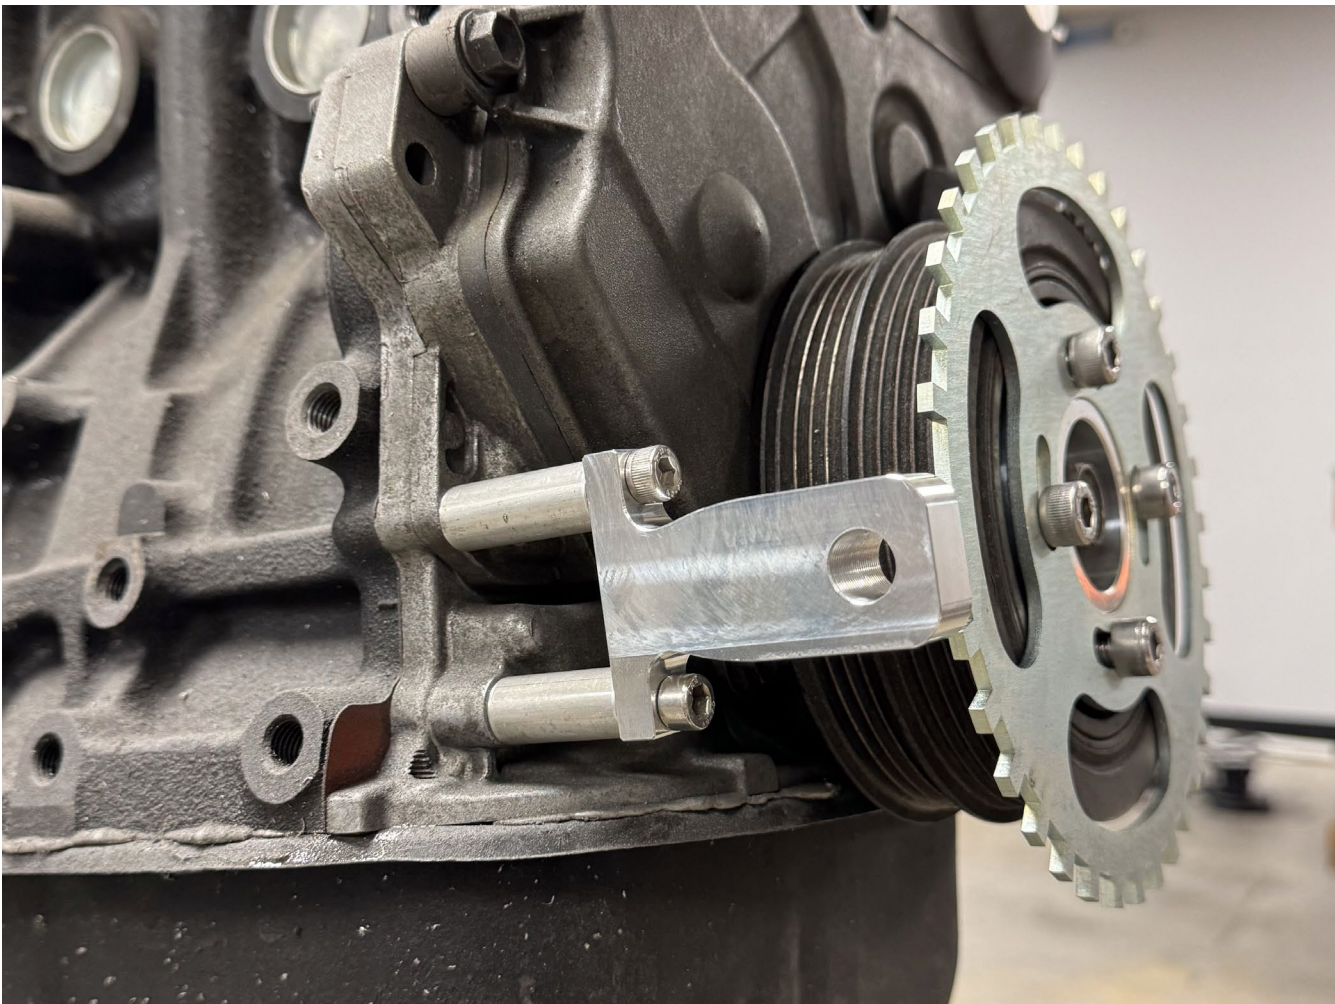

Figure 5
5. Install the crank sensor adapter. The M6x1 65mm bolt will locate towards the top of the engine with the longer spacer. The M6x1 70mm bolt and shorter spacer go below. Align with the trigger wheel and **tighten to 69 in-lbs** using a 5 mm allen head socket. (Fig 5)